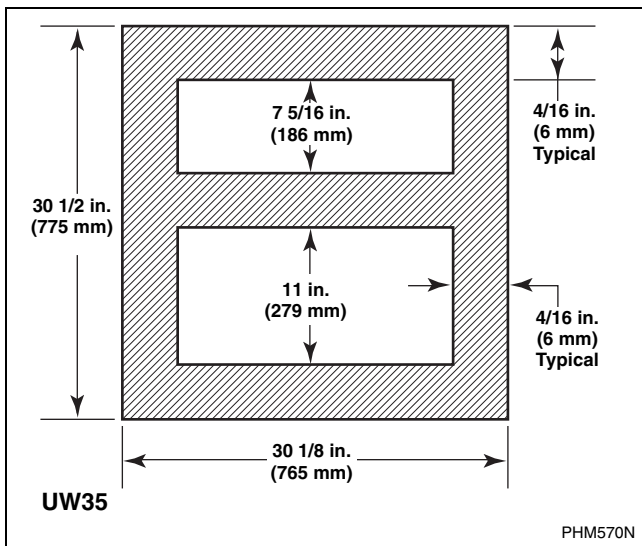
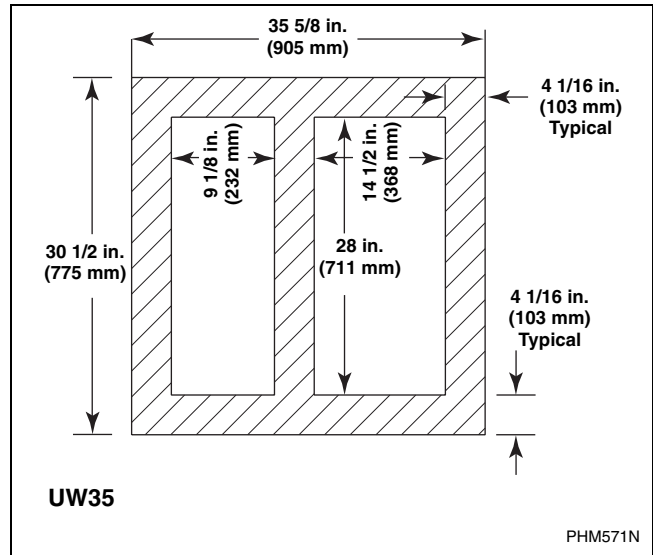

Figure 8
Figure 9
5. Fill the space between the washer-extractor base and the floor with a good quality non-shrinking machinery grout to ensure a stable installation. Grout completely under all frame members. (Remove front panel and rear panel to gain access to **all** frame members.) See *Figure 8* and *Figure 9*. Force grout under machine base until all voids are filled.